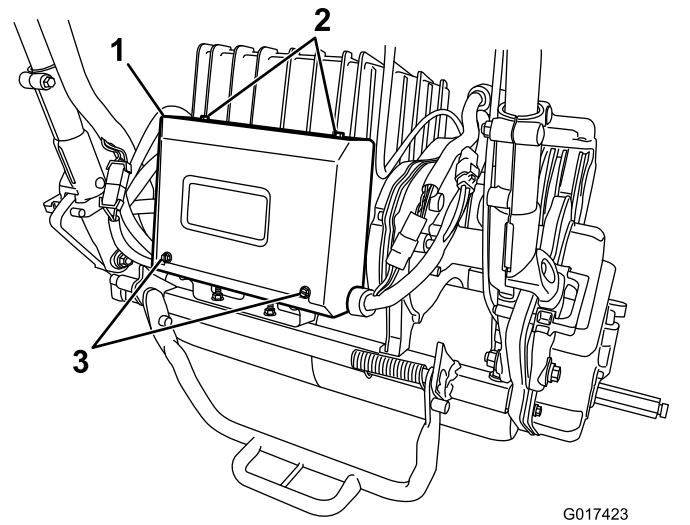

Figure 39
2. Remove the 2 rear screws from the electrical box and loosen the 2 upper screws then remove the box cover (Figure 39).